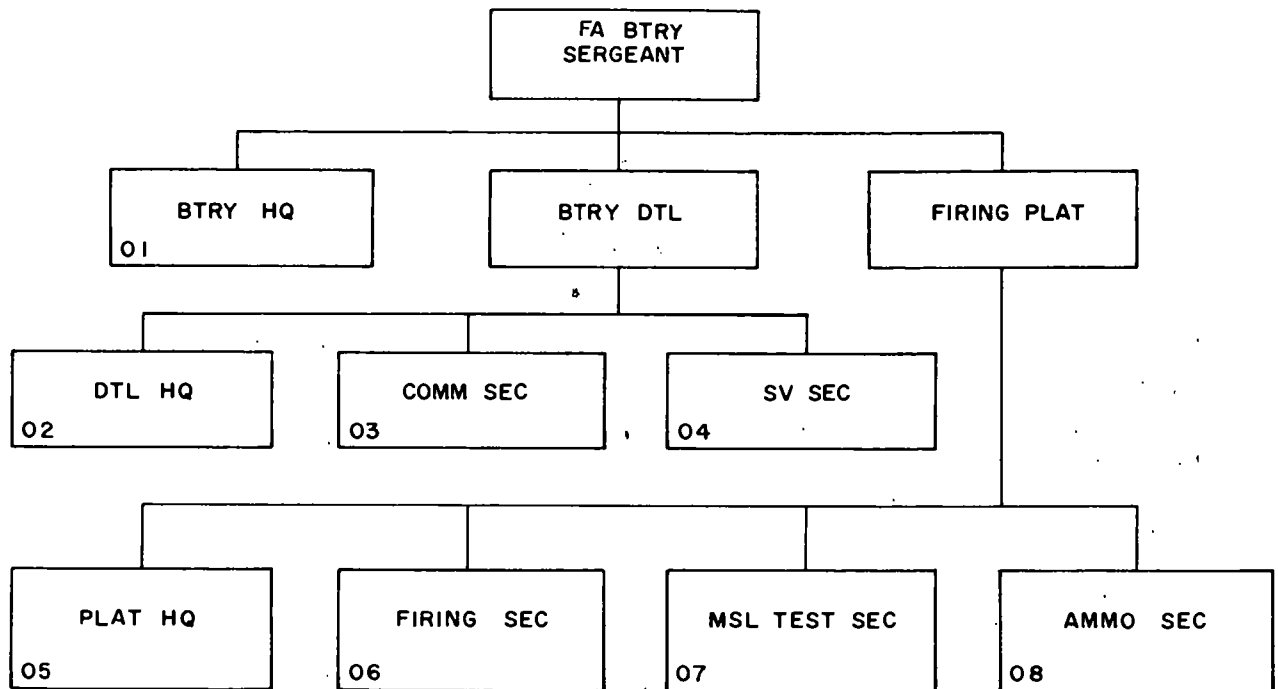

Figure 1. Field artillery battery, Sergeant.
a. *The Firing Battery.* The battery consists of three primary units (fig. 1) as follows:
- (1) Battery headquarters.
- (2) Battery detail.
- (3) Firing platoon.